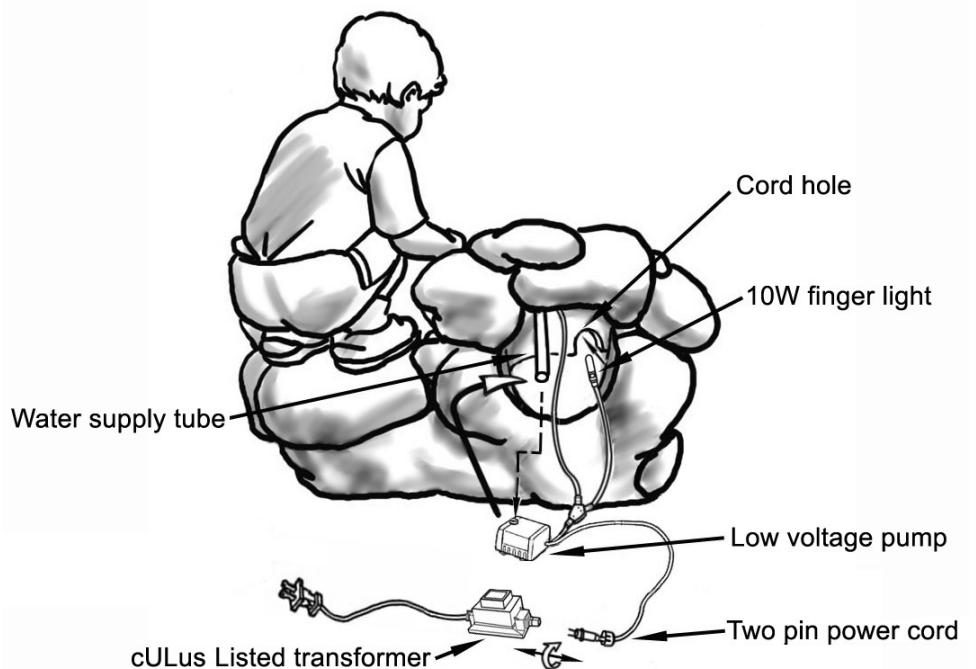

Fig. 2
3. From the opening at the back of the fountain body, place the pump and 10W finger lights assembly upright in the basin and insert the water supply tube into the pump outlet on top of the pump. Lead the unclipped 10W finger light through the cord hole to the front of the basin (Fig. 2) and slide it into the cord clip at the bottom of the fountain body basin (Fig 1A). Lead the two pin pump power cord out of the basin from the opening at the back of the fountain body.